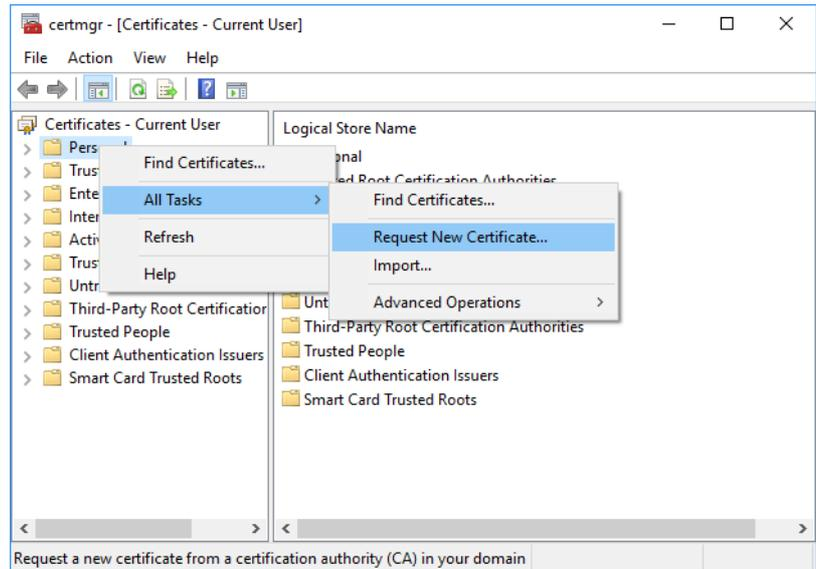

Figure 2-33. Request New Certificate
3. Right-click the **Personal** folder and select **Request New Certificate** from the shortcut menu, see Figure 2-33.